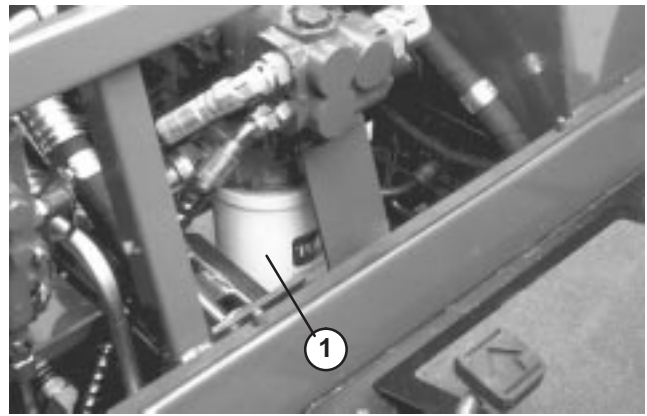

Figure 43
2. Clean area around filter mounting area (Fig. 43). Place drain pan under filter and remove filter.